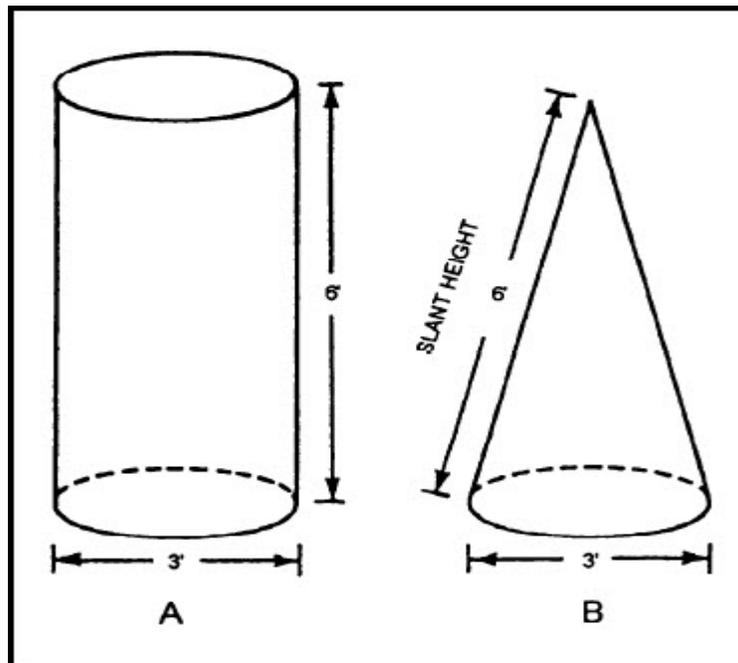

Figure 8-13 Areas of cylinders and cones
Example: Find the area of the side of the cylinder in view A of figure 8-13.
The formula for finding the area of the side of a cone uses a new dimension - slant height (SH) - which is the distance from the edge of the base to the apex of the cone. See view B of figure 8-13. The area may be found by multiplying half the slant height by the circumference of the base.
Example: Using the dimensions in figure 8-13, find the area of the cone.